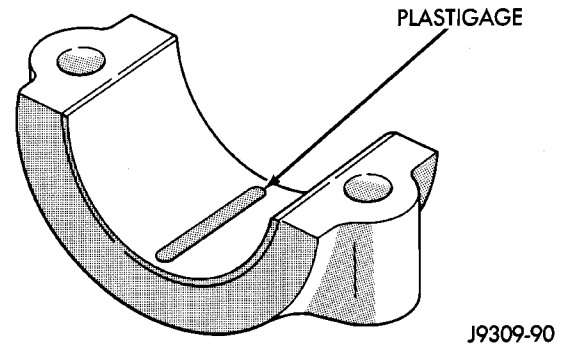

Fig. 2 Placement of Plastigage in Bearing Shell
(1) Place a piece of Plastigage across the entire width of the bearing cap shell (Fig. 2). Position the Plastigage approximately 6.35 mm (1/4 inch) off center and away from the oil holes. In addition, suspect
(2) Place a piece of Plastigage across the entire width of the bearing cap shell (Fig. 2). Position the Plastigage approximately 6.35 mm (1/4 inch) off center and away from the oil holes. In addition, suspect areas can be checked by placing the Plastigage in the suspect area.
(3) The crankshaft must be turned until the connecting rod to be checked starts moving toward the top of the engine. Only then should the rod cap with Plastigage in place be assembled. Tighten the 4.0L rod cap nut to 45 N·m (33 ft. lbs.) torque. Tighten the 5.2/5.9L rod cap nut to 61 N·m (45 ft. lbs.) torque.